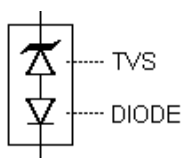
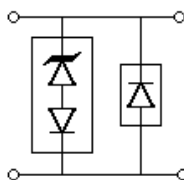
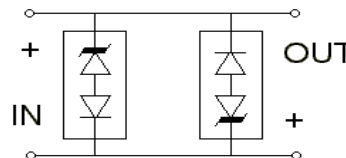

FIGURE 4
FIGURE 5
FIGURE 6
- When pulse testing, do not pulse in opposite direction. (See "Schematic Applications" section herein and Figures 5 & 6 for further protection in both directions)
The TVS low capacitance device configuration is shown in Figure 4. As a further option for unidirectional applications, an additional low capacitance rectifier diode may be used in parallel in the same polarity direction as the TVS as shown in Figure 5. In applications where random high voltage transients occur, this will prevent reverse transients from damaging the internal low capacitance rectifier diode and also provide a low voltage conducting direction. The added rectifier diode should be of similar low capacitance and also have a higher reverse voltage rating than the TVS clamping voltage V_C . The Microsemi recommended rectifier part number for the application in Figure 5 is the "SMBJLCR80" or "SMBGLCR80" depending on the terminal configuration desired. If using two (2) low capacitance TVS devices in anti-parallel for bidirectional applications, this added protective feature for both directions (including the reverse of each rectifier diode) is inherently provided in Figure 6. The unidirectional configurations in Figure 5 and 6 will both result in twice the capacitance of Figure 4.